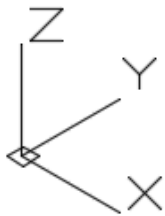

Figure Step 4
Step 4 Ensure that the UCS is located at World. (Figure Step 4)